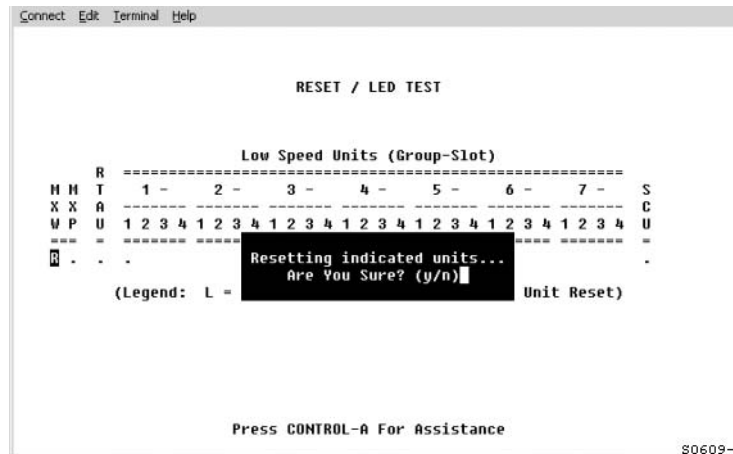

Figure 15. Reset/LED Test Screen
- 3 From the System Maintenance menu, select **Reset/LED Test Commands**. The Reset/LED Test screen appears as shown in Figure 15.
- 4 Use the arrow keys to select the module to be reset. Press **R** to execute (the confirmation query shown in Figure 15 appears). Press **Y** to reset the module or press **N** to cancel.